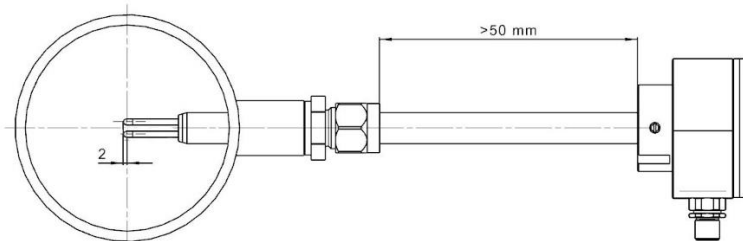

Figure 3-1
In the case of medium temperatures that don't correspond to the permissible operating temperature of the electronics, cross-talk of the temperature into the electronics housing must be prevented by a thermal decoupling section of the sensor tube having a free-standing length of at least 50 mm (see Figure 3-1) or by means of other suitable measures.
The “upper” (see Figure 3-1) of the two small sensor tubes at the tip of the sensor head is the so-called heater. It consists of a heated, temperature-dependent resistor that is used to measure flow velocity. The front end of that tube (not the cap), to which the length specification (L) of the sensor also refers, represents the actual measuring point of the flow measurement and should be placed as favourably as possible in the flow, e.g. in the middle of the pipe.